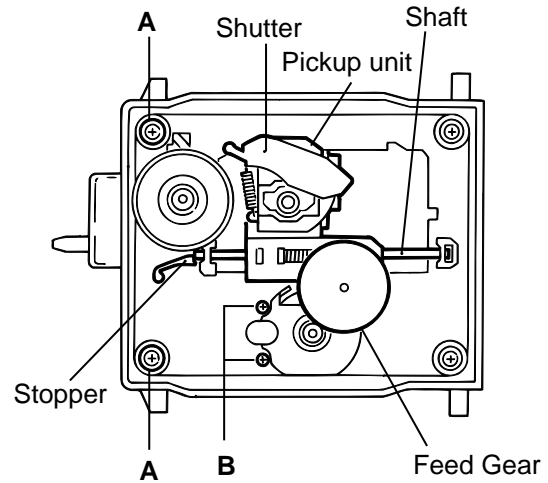
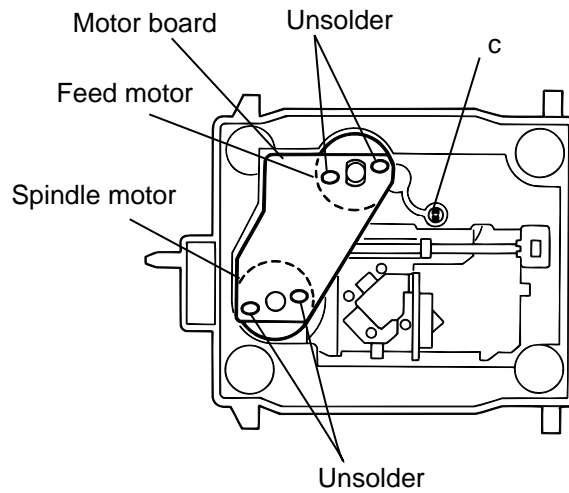

Fig.1
Fig.3
1. Loosen the two screws A fixing the chassis.(Fig.1)
(Fig.1, Fig.3, Fig.4)
3. Pull out the shaft by opening the pickup shaft stopper outward to unlock.(Fig.1, Fig.2)
4. Removing the pickup unit.(Fig.1)
1. Unsolder the motor terminal on the motor board.(Fig.3)
2. Remove the motor board.(Fig.3)
Remove the two motor fixing screws at B and removing the feed motor.(Fig.1, Fig.3)